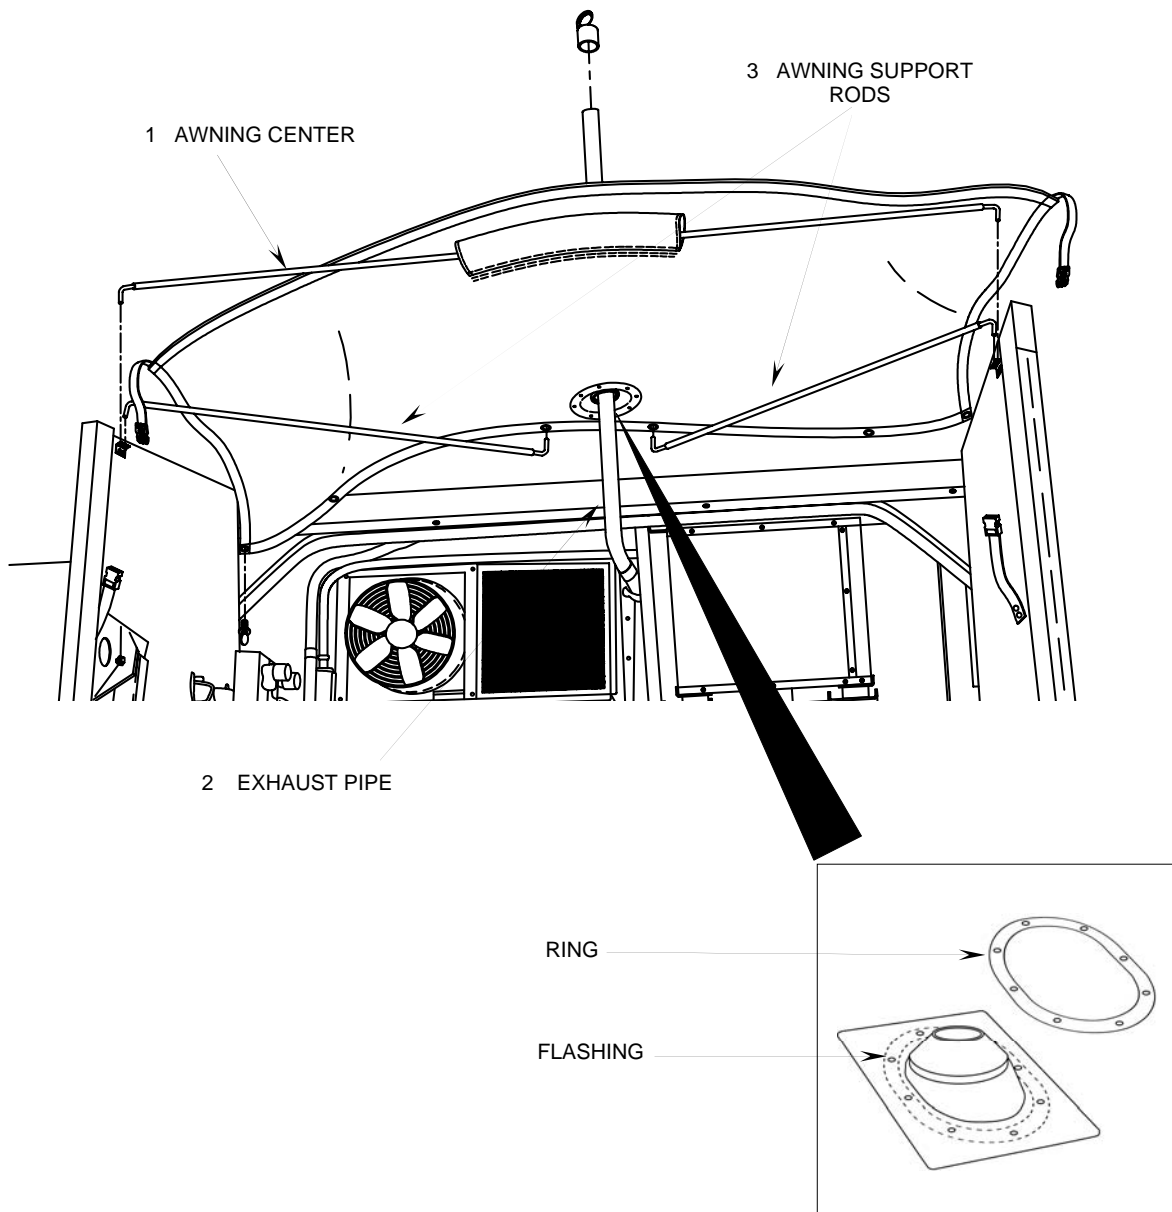

Figure 6. Awning & Awning Flashing Assembly
Awning Flashing Assembly: The awning flashing assembly (Figure 6) is located over the mechanical room with the awning erected. The flashing assembly is the through way of the exhaust pipe outside the mechanical room.
2. Remove rods securing awning (Figure 6, Items 1 & 3) from hooks on container doors.
4. Slide exhaust pipe (Figure 6, Item 2) from flashing assembly.
1. Remove center rod from awning (Figure 6, Item 1).
3. Reinsert exhaust pipe (Figure 6, Item 2) through flashing assembly, have observer check straight alignment of pipe.
6. Replace center rod in awning (Figure 6, Item 1).
7. Reattach other awning support rods (Figure 6, Item 3) to mechanical room door.